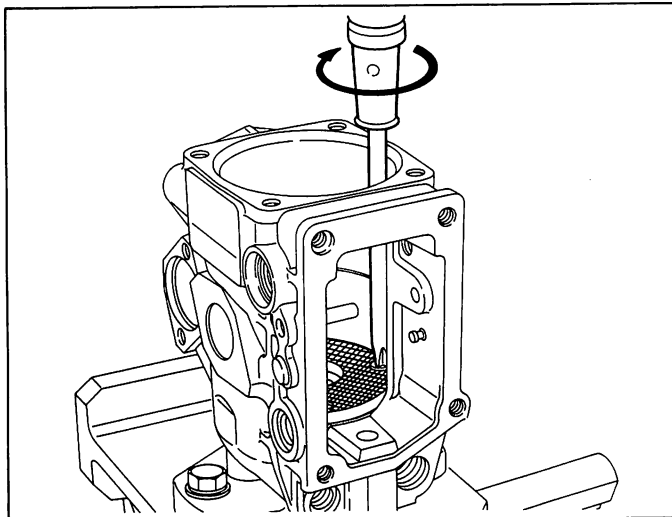

Fig. 41 Fixing the feed pump assembly
6. Secure the feed pump assembly (6) using the two screws (10). (Fig. 41) After assembly, move the rotor up and down and left and right using the fingertips to check that it moves smoothly.